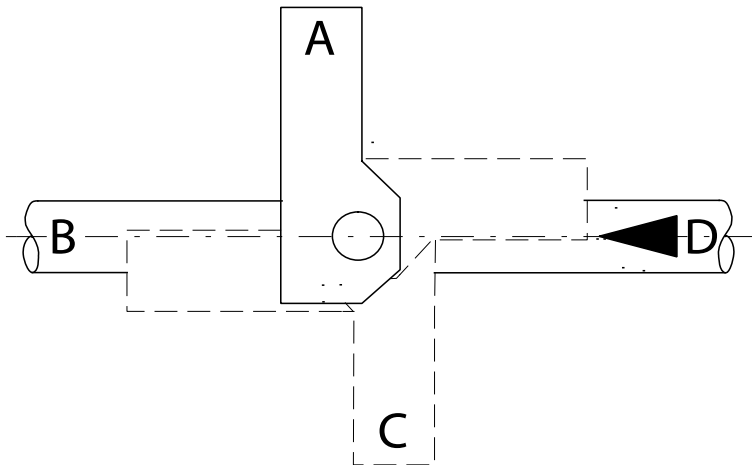

Fig.5-10 Actuator mounting position
5. Assemble the actuator with the bracket on the desired position (A, B, C or D) (→ Fig.5-10) onto the shaft of the butterfly valve body. Fix the unit with the screws (→ Fig.5-9/6).